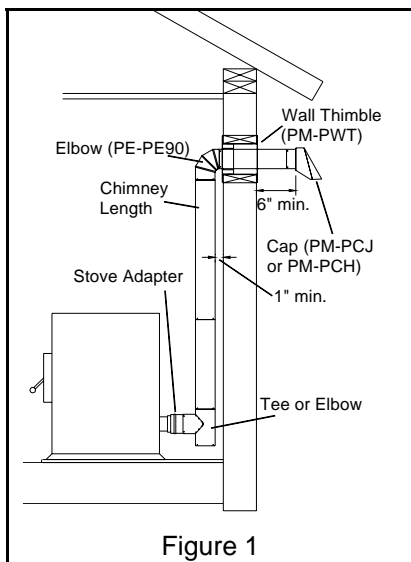
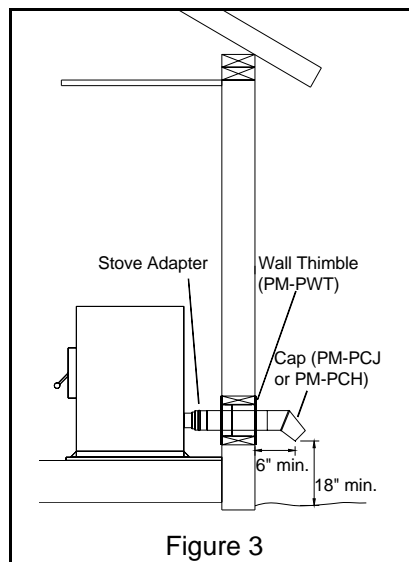

Figure 1
Figure 3
Figures 1 and 2 are considered preferred installations because they provide natural draft in the event of a power failure and don't require cutting the roof. Figure 3 is a common horizontal installation.
6. Fasten additional parts as necessary. Refer to Figures 1, 2 or 3 for typical installations.